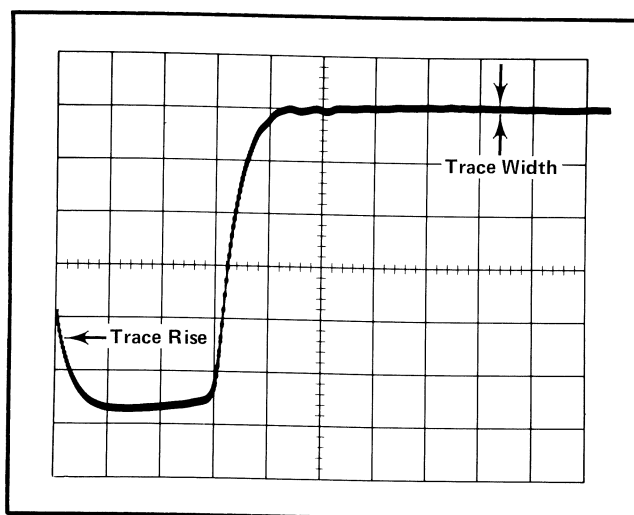

Fig. 6-14. Waveform shows trace rise due to low loop gain adjustment of C18. Excessive trace width is due to incorrect setting of C5 (Step 11).
c. Decrease the loop gain by adjusting C18. At low loop gain, the beginning of the trace is raised above its normal level. See Fig. 6-14.